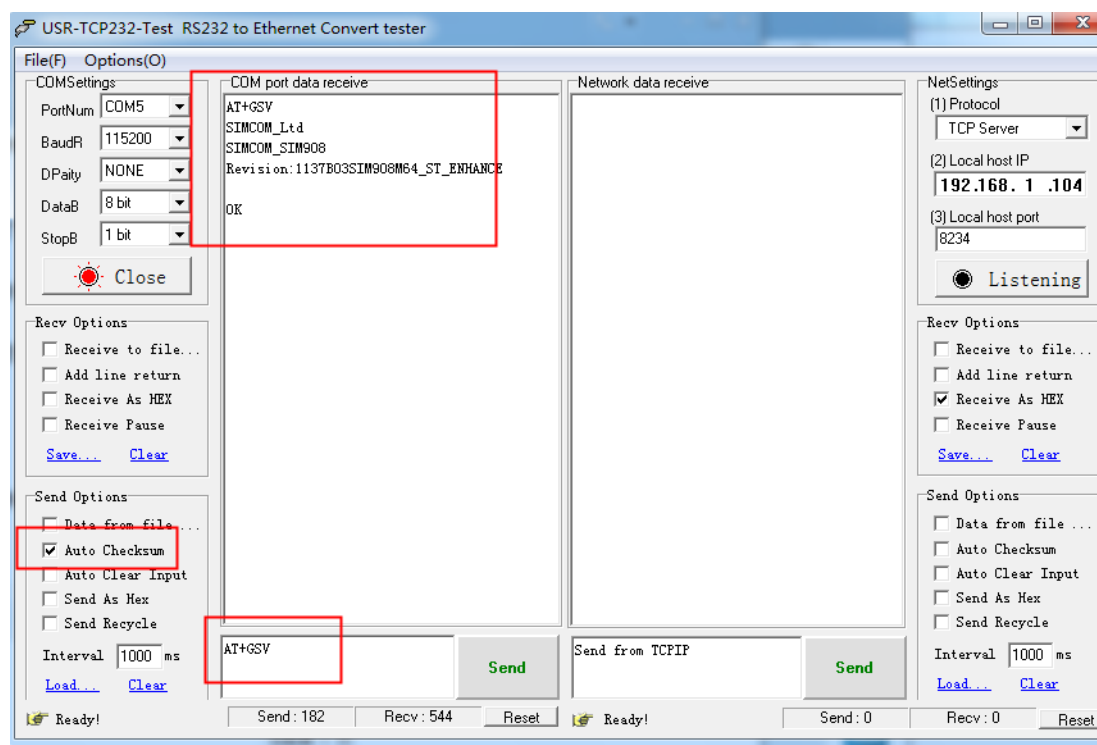

Figure 6: Sending AT command for module verification testing
- ③ Fill in the transmission box with AT+GSV, and click the button **Send** to transmit the command.
- ④ The data receive box displays the return values from the corresponding serial port, as Figure 6 shows.